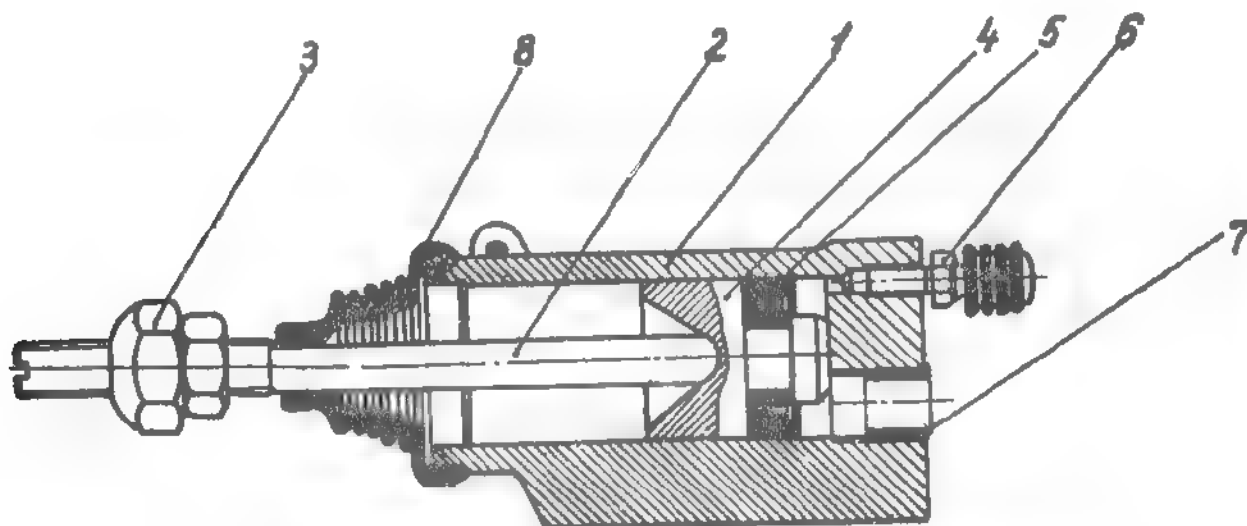

Fig. 2. 46. CLUTCH CONTROL CYLINDER.
- Remove slave cylinder boot (8) and pushing rod (2) - (see fig. 2. 46).
- Remove snap ring by means of S 102 nose pliers and after it the piston with rubber cup (4).